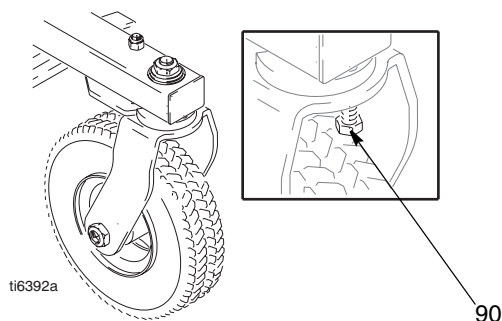

FIG. 1
7. Install screws (34) in drive housing. Torque evenly to note 3 value in Fig. 1.
9. Install front cover (52) with two screws (32)..